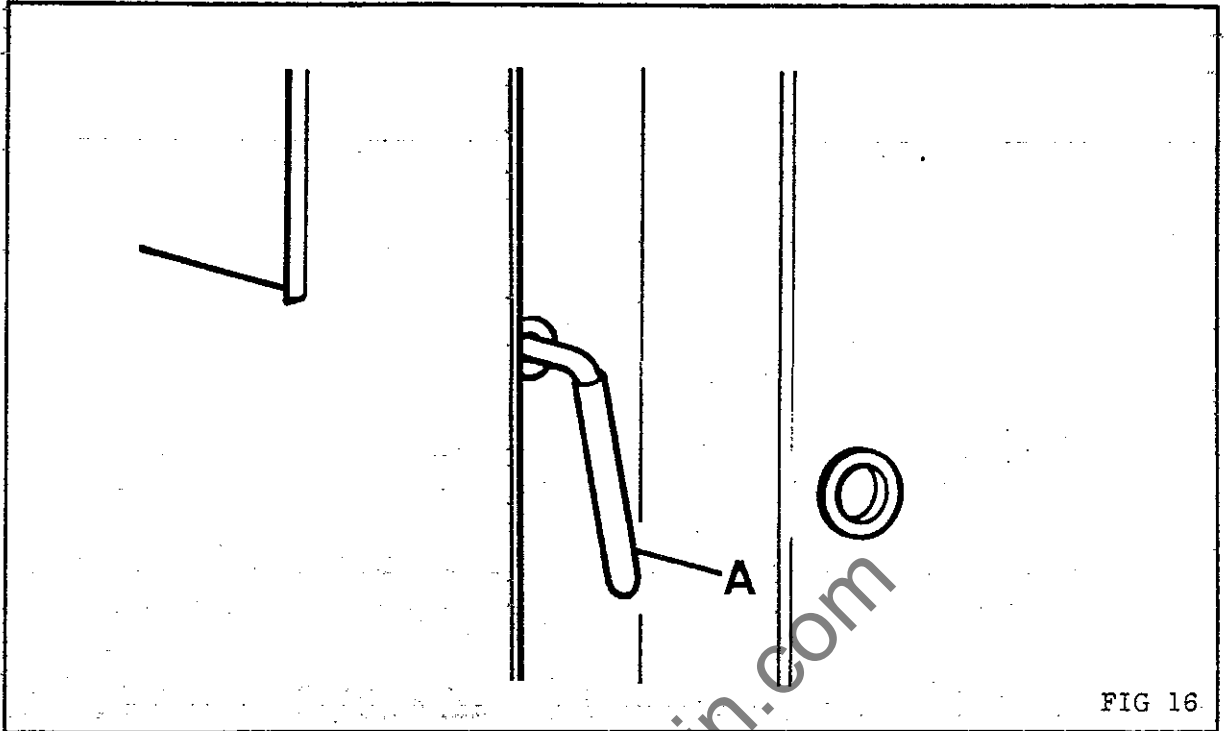

FIG 16
4. Move belt tension release handle "A" in FIG 16 to motor support position.
8. Move belt tension release handle "A" in FIG 16 so belt tension release bracket does not obstruct motor when motor is lowered.